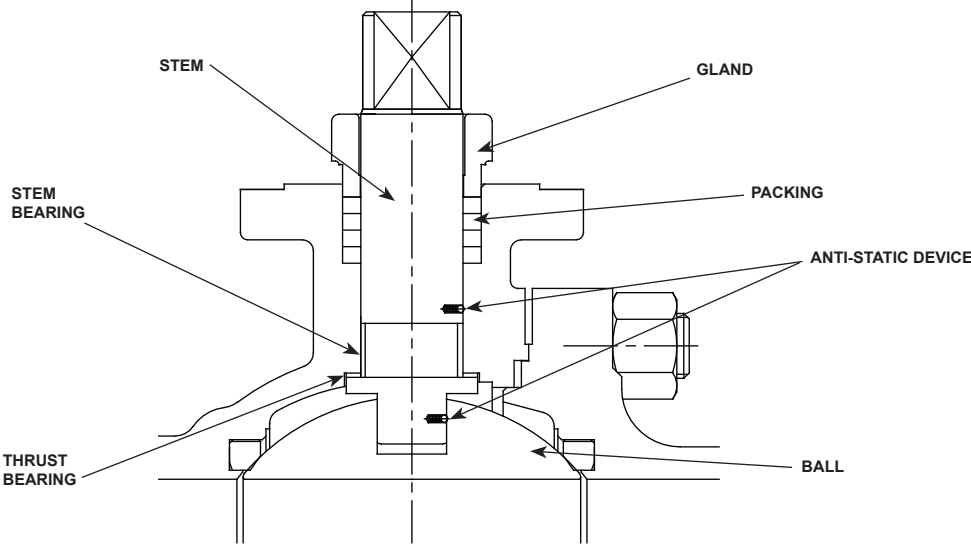

Figure 2. Stem Construction Assembly
- **Blow-off Proof Stem Construction**—The lower part of the stem is terraced and is installed at the lower internal part of the valve. This construction can avoid the stem blowing off from the valve and can provide metal-to-metal sealing in case of fire. See Figure 2.